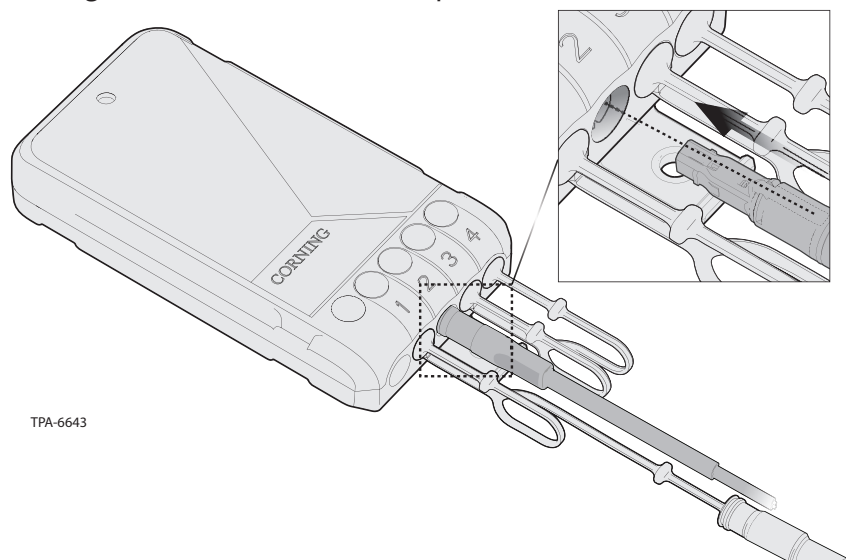

Figure 31
Step 8: Insert the connectorized drop cable into the drop connector port. Orient the notch on the connector with the port button in the terminal (Figure 31).